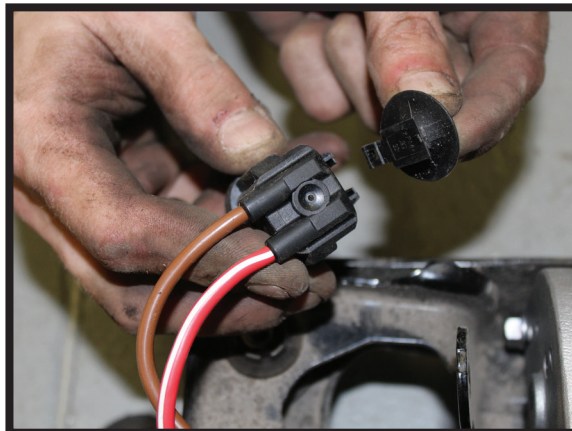

FIGURE 13
3. TRANSFER THE PLASTIC-CLIP FROM POWER SUPPLY CONNECTOR TO NEW COMPRESSOR. (FIGURE 13)